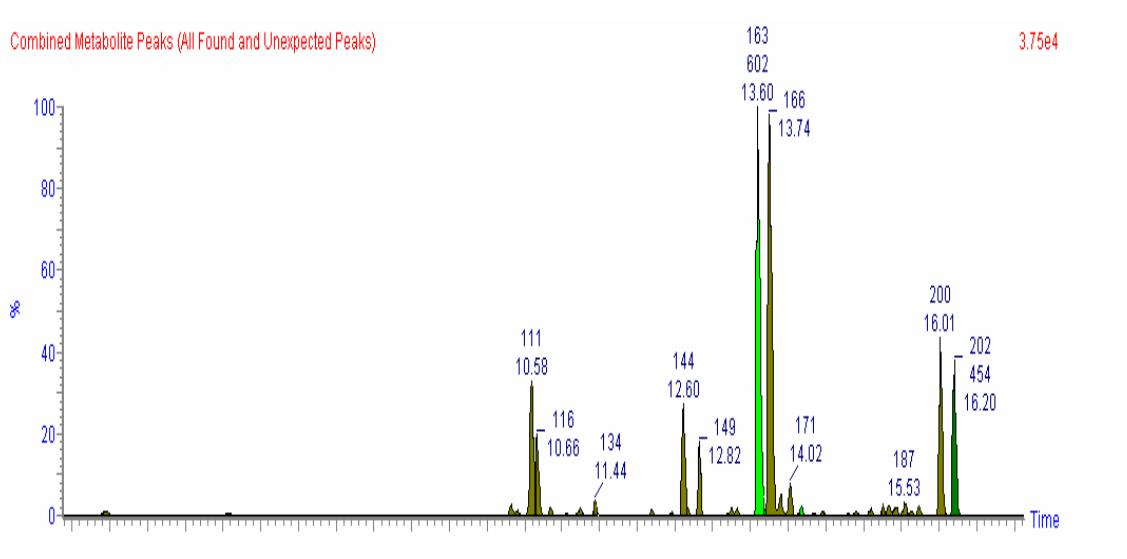

Figure 5. Shows the combined XIC trace for all metabolites detected. Excellent resolution was achieved by the use of UPLC™
- UPLC™ coupled with Q-ToF technology provided an excellent separation and a short analysis time for *in-vivo* samples (Figure 5)